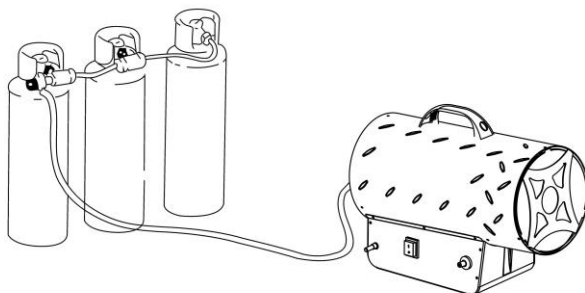

Figure 1
- 1.9. If the heater has to work for a long period at its maximum capacity, it's possible that ice will form on the gas cylinder. This is due to excessive vapor withdrawal. Not for this reason, or for any other, should the cylinder be heated to avoid this effect, or at least to reduce it, use a large cylinder or two cylinders linked together (Figure1).